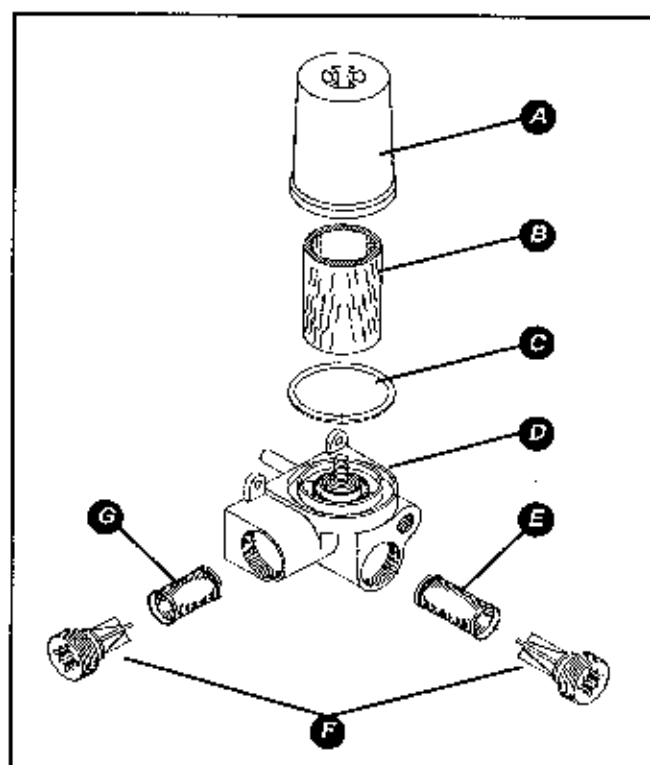

Figure 6-4
1. If necessary, insert a 3/8" ratchet drive into the opening provided to remove the filter plugs or the filter bowl from the filter housing (see Figure 6-4).
3. Discard the secondary filter (Item B, Figure 6-4). The secondary filter is not washable.
6. Reassemble the filter housing. Hand-tighten the upper Bowl (Item A, Figure 6-4). For best results, *do not* use a ratchet.